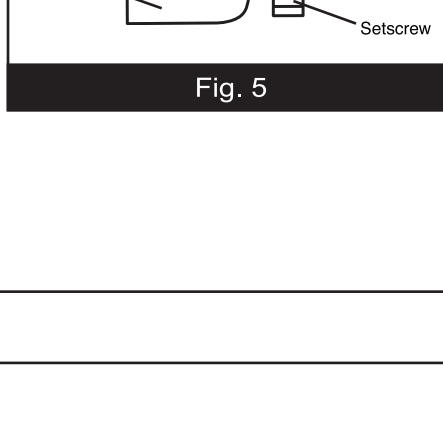

Fig. 5
- Adjust one setscrew on each adaptor until it covers approximately half the hole. (Fig. 5)